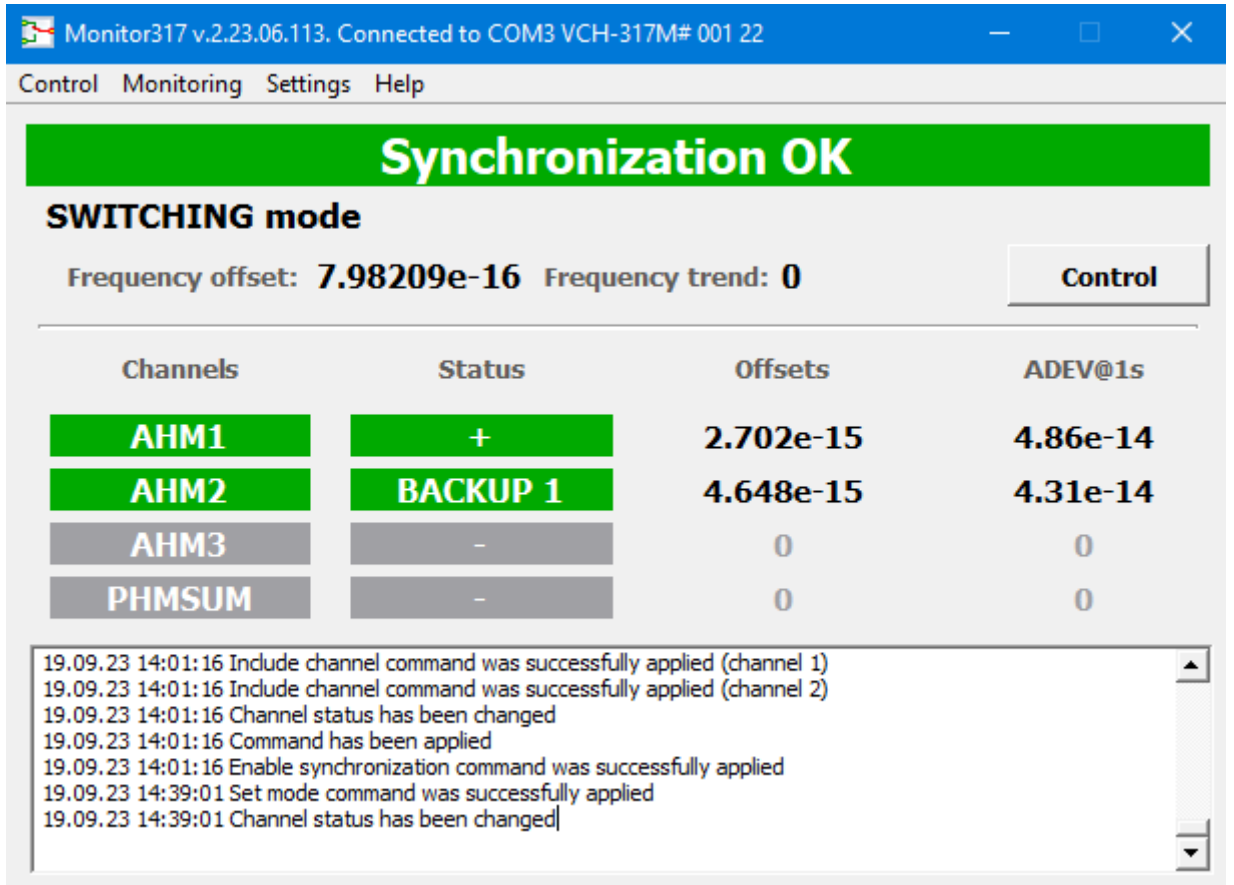

Figure 7.2a
Under the field showing the main state of the Combiner (see Figures 7.2a, 7.2b) is situated field indicates the Combiner operating mode (“**Switching mode / Averaging mode**”). The operational mode selecting and output signal frequency synchronization in the above modes is described in section 6.1 this OM and section 3.3 the UG.
Under the field showing the Combiner operating mode (see Figures 7.2a, 7.2b) is situated field indicates some parameters of the output sine-form signal frequency (“**Frequency offset**”, “**Frequency trend**”). Frequency offset correction is described in item 6.2.2 this OM and section 3.3 the UG. Frequency offset correction is described in item 6.2.3 this OM and section 3.3 the UG. The influence of the Frequency offset and Frequency trend on the current output signals frequency is shown in the formula in item 3.4.3 this OM.